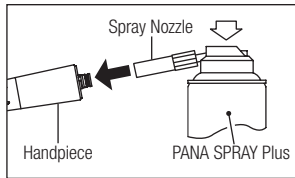

Fig. 8
- 3) Insert the Spray Nozzle in rear of the handpiece. Hold the handpiece and spray for approximately 2-3 seconds. Apply lubricant until it expels from the handpiece head for at least 2 seconds. (Fig. 8)
- 3) Lubricate handpiece by using NSK PANA SPRAY Plus (or other approved handpiece lubricant) (Fig. 8) or an automatic handpiece cleaning and lubrication system.